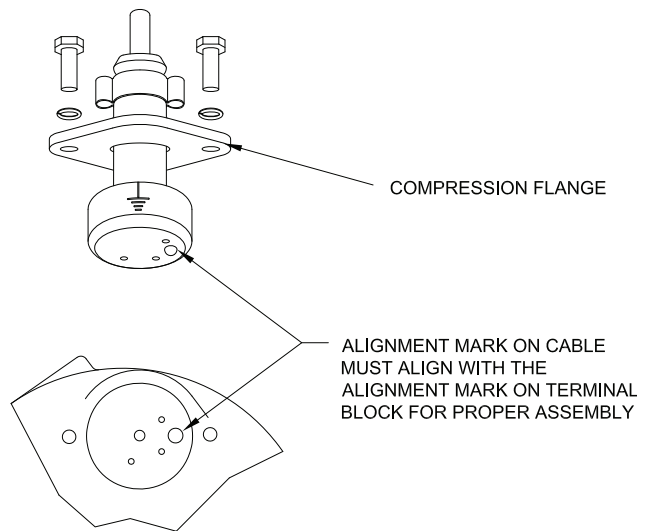

FIGURE 4
Power/Control Cable- Insert female end of cable plug into housing bore aligning alignment mark with hole in terminal block see Figures 4 & 5. Tighten bolts on compression flange until flush with motor housing.
- Install power cord and level control cord to pump. Make sure alignment mark on cord aligns with alignment mark on terminal block. Use hardware provided to mount cord flange to pump. Note that one connection has small pins and one as large pins. Install the proper cord into the proper socket (See Figure 4).